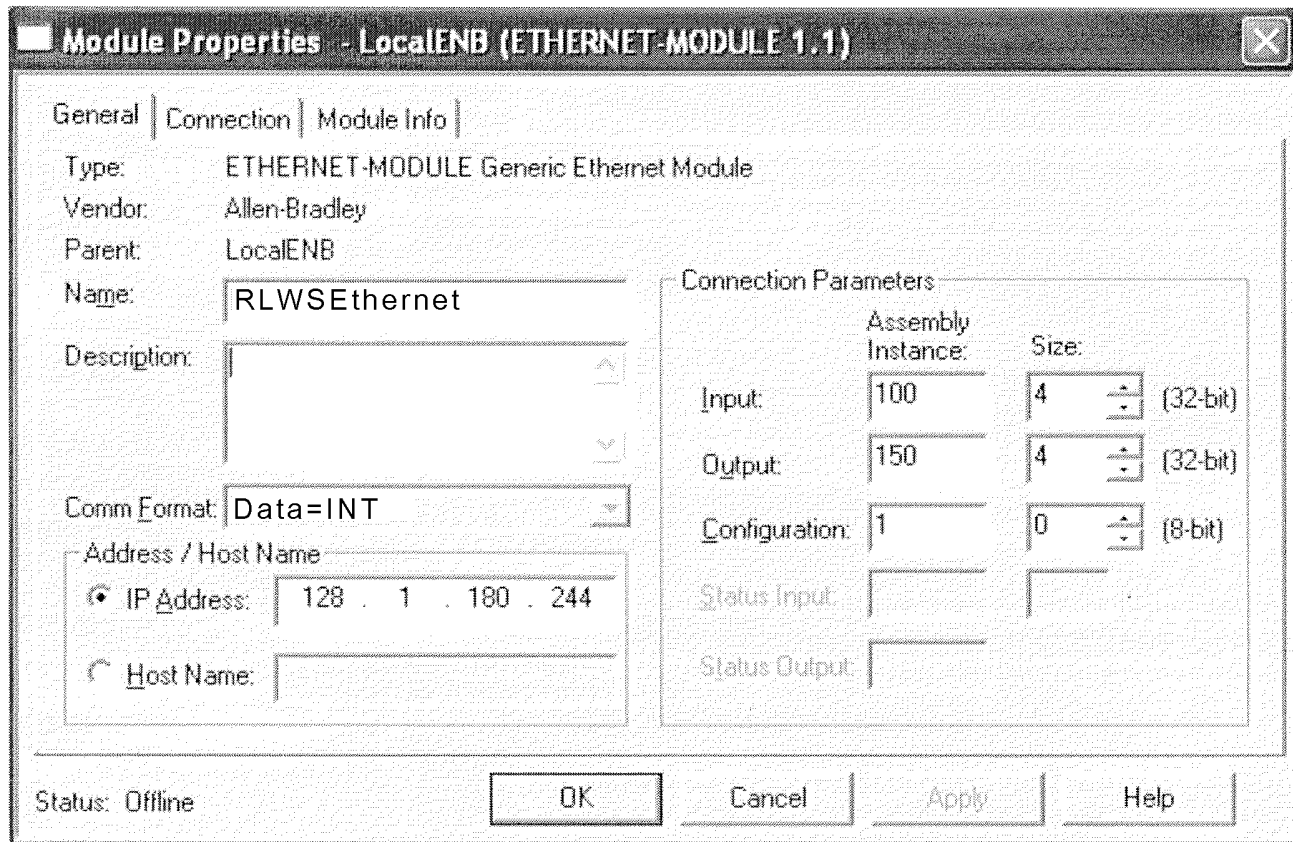

Figure 3-2. Ethernet Modules Display
10. Use the *Generic Ethernet Module* to add the indicator with EtherNet/IP to the I/O configuration; assign a name as shown in Figure 3-2 on page 7.